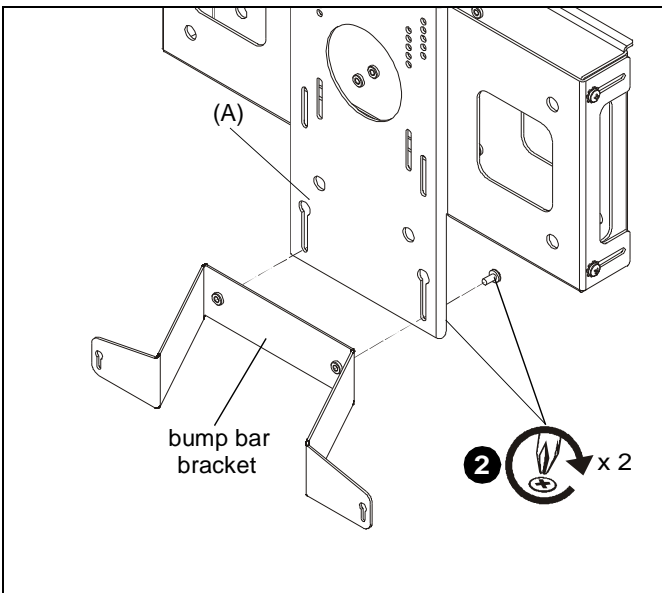

Figure 2
2. Reinstall bump bar bracket in the correct direction using two screws removed in Step 1. (See Figure 2)